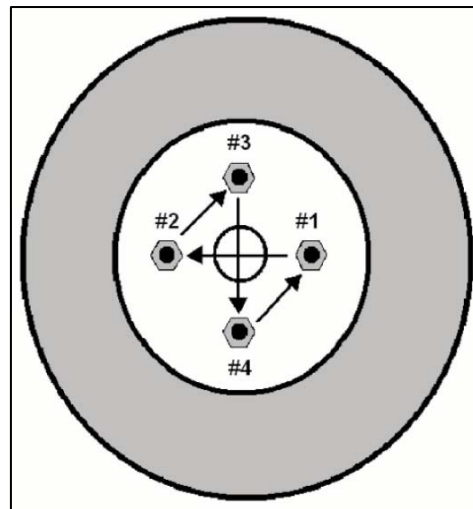

Figure 5-5
4. Reinstall rear wheel/tire assembly and four lug nuts. Engage brake and tighten lug nuts in a crisscross pattern to a maximum 65 ft. lbs. (Figure 5-5). Repeat for other rear wheel/tire assembly. Recheck lug nut torque with vehicle on the ground.
8. Reinstall rear wheel/tire assembly and four lug nuts. Engage brake and tighten lug nuts in a crisscross pattern to a maximum 65 ft. lbs. (Figure 5-5). Recheck lug nut torque with vehicle on the ground.
12. Reinstall rear wheel/tire assembly and four lug nuts. Engage brake and tighten lug nuts in a crisscross pattern to a maximum 65 ft. lbs. (Figure 5-5).
13. Reinstall front wheel/tire assembly and four lug nuts. Engage brake and tighten lug nuts in a crisscross pattern to a maximum 65 ft. lbs. (88.1 Nm) (Figure 5-5).